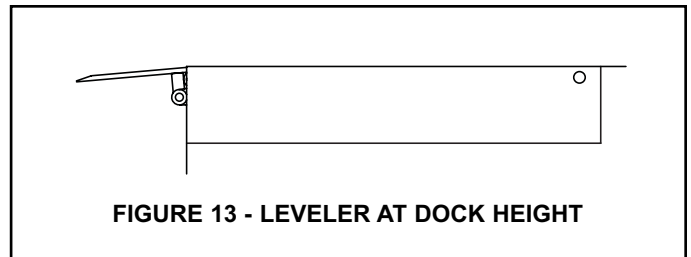

FIGURE 13 - LEVELER AT DOCK HEIGHT
- a. Return the platform to the fully raised position then lower the platform to dock height. See figure 13. The platform should hold that position until someone stands on the platform near the lip.